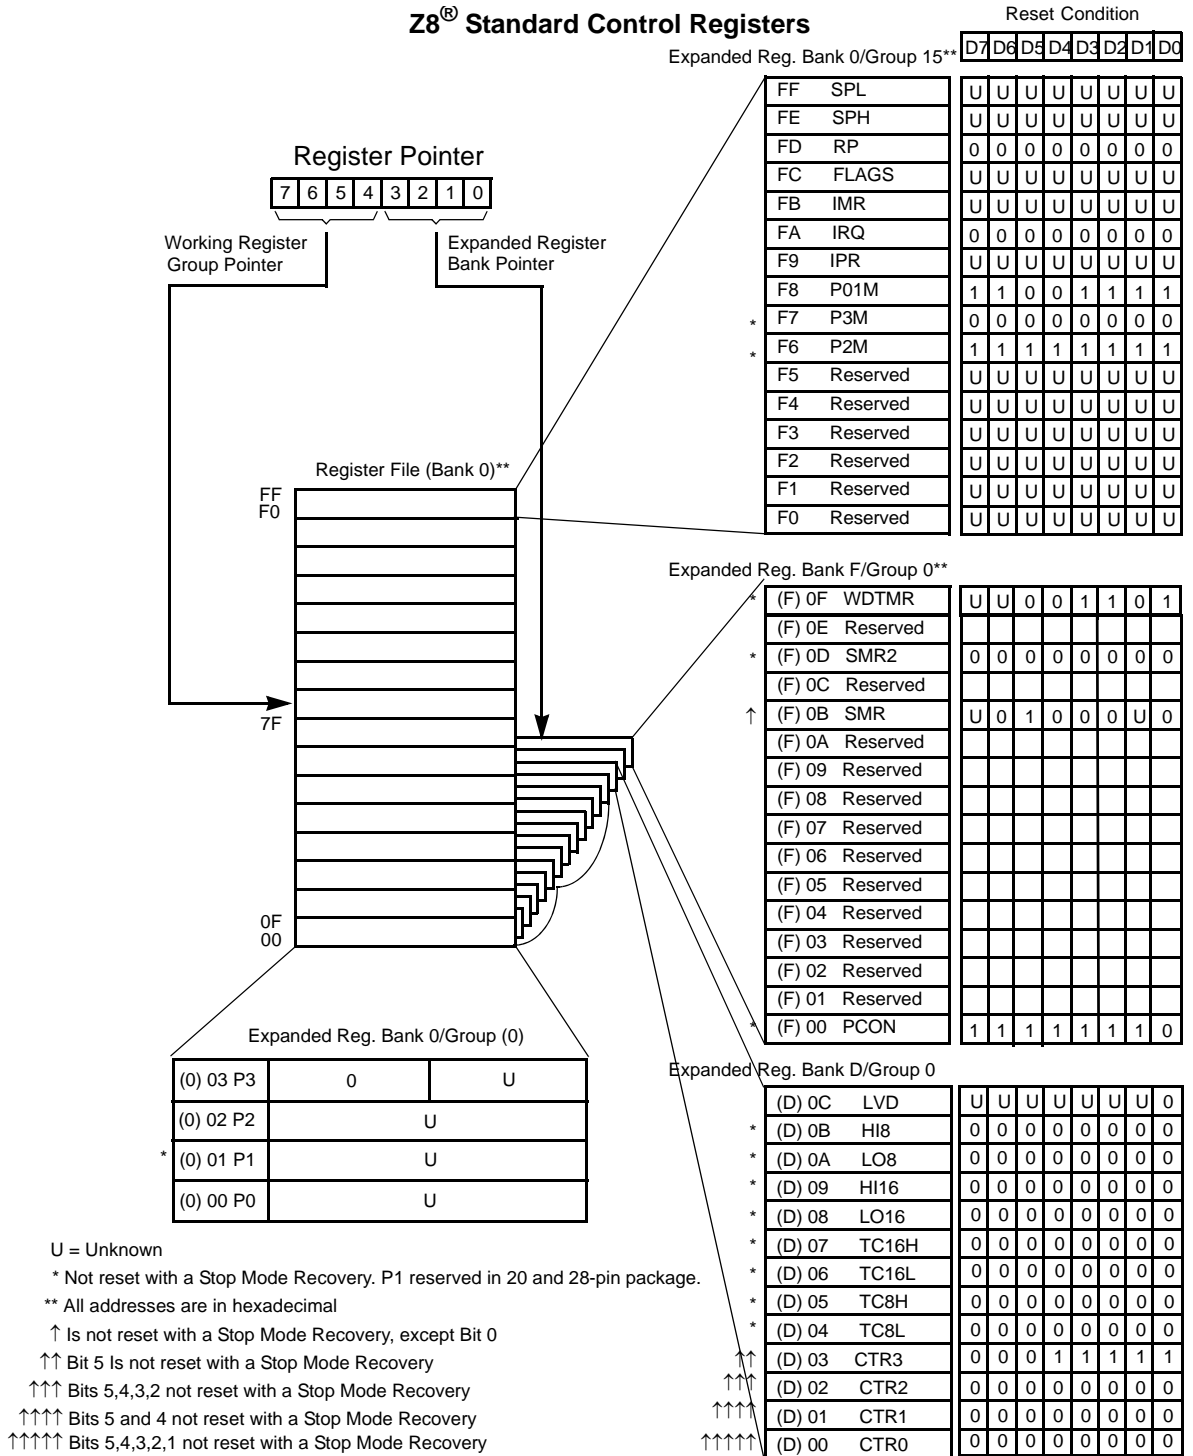

Figure 12. Expanded Register File Architecture
- **Note:** An expanded register bank is also referred to as an expanded register group (see Figure 12 on page 23).
Example: Crimzon ZLR32300 (see Figure 12 on page 23).